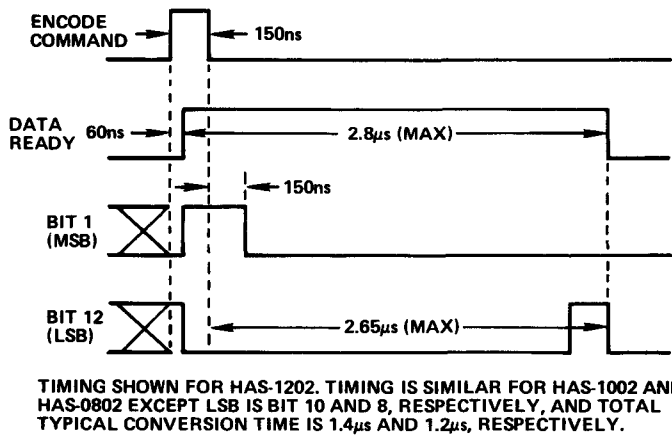

Figure 1. Timing Diagram (Typical)
| Data Ready (DR) Function                            |              | Signals conversion is complete when low.After DR goes low, data is valid. A new conversion may be initiated at this time. DR may be used to strobe data into external register if adequate register setup time is allowed.See Figure 1 |           |           |